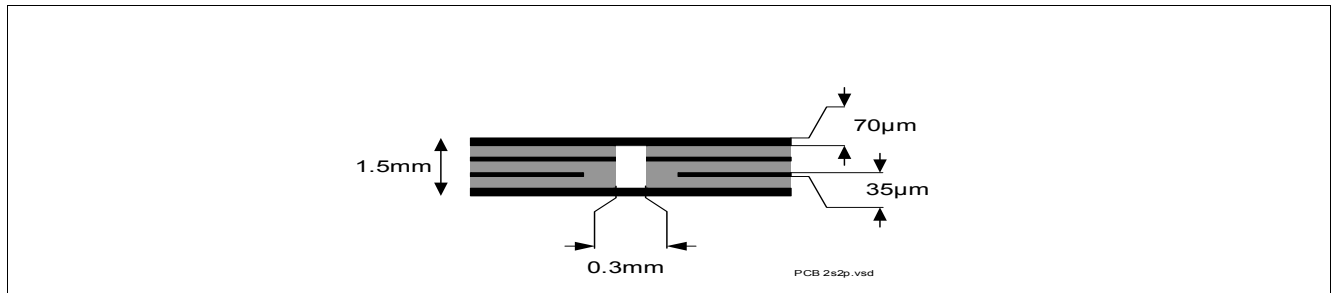

Figure 4 2s2p PCB Cross Section
- 2) Specified R_{thJA} value is according to JEDEC JESD51-2,-5,-7 at natural convection on FR4 2s2p board with 1 W power dissipation at $T_A=105^{\circ}C$. The product (chip + package) was simulated on a 76.4 x 114.3 x 1.5 mm board with 2 inner copper layers (2 x 70 μm Cu, 2 x 35 μm Cu). Where applicable, a thermal via array under the exposed pad contacts the first inner copper layer. Please refer to Figure 4.